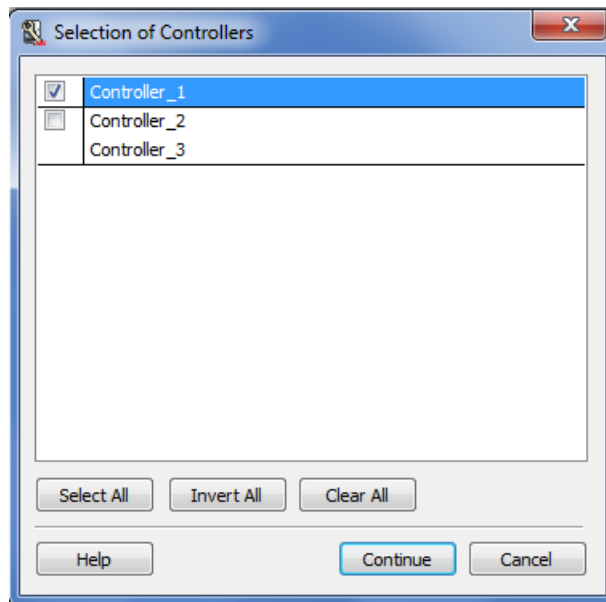

Figure 76. Selection of Controllers dialog
When **Tools > Download Project and Go Online** is selected for a project with more than one controller, the Selection of Controllers dialog is displayed. For example, in Figure 76, “Controller\_2” and “Controller\_3” cannot be separately selected or excluded since one application is connected to both these controllers.
1. Click **Continue**-button in Figure 76, an Online Analysis window opens.